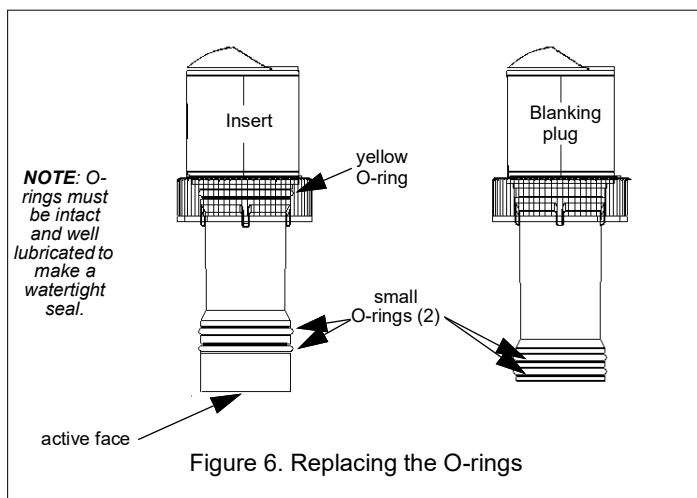

Figure 6. Replacing the O-rings
1. *All the O-rings must be intact and well lubricated to make a watertight seal.* On the blanking plug, inspect the O-rings (replace if necessary) and lubricate them with the silicone lubricant supplied or petroleum jelly (Figure 6).
Aquatic growth will seriously affect the performance of the ultrasonic insert. Clean the active face with a dull putty knife, being careful to avoid scratching the surface (Figure 6). If fouling is severe, lightly wet sand the active face with fine grade (#320) wet/dry paper.
All the O-rings must be well lubricated and free of abrasions and cuts to ensure a watertight seal. Install the O-rings on the ultrasonic insert as shown (Figure 6). The remaining O-rings are placed in similar positions on the blanking plug.